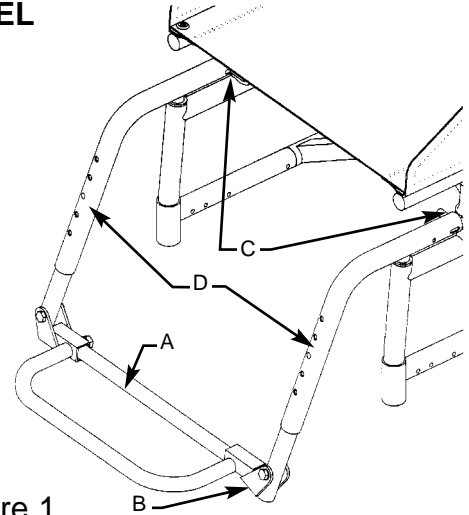

Figure 1
- 1 Release the footrest bar (A) from the retaining pin (B) and flip up the footrest bar. Slide each locking pin (C) and lift and rotate each footrest hanger (D) upwards to remove (see FIG 1).